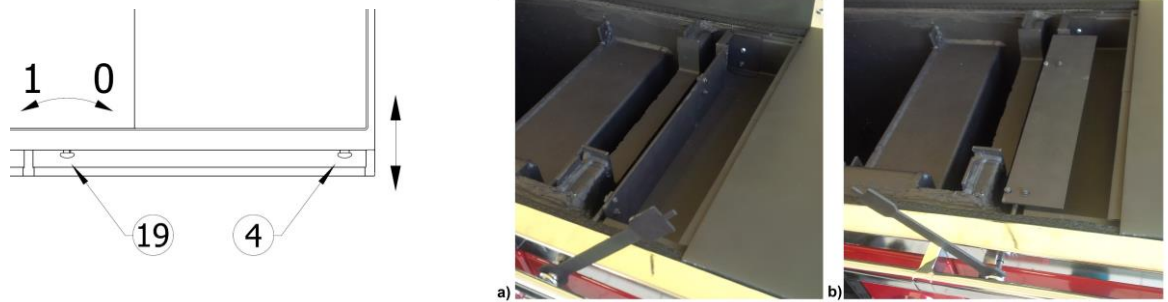

Figure 13
When the system is cold, power regulator (combustion regulator, thermostat) damper (Fig. 9, pos. 22) located on the ash pan door (Fig. 1, pos. 8) should be open (knob Fig.1, pos. 9 turned to max). The button of the butterfly handle (Fig. 1 and Fig. 13, pos. 4) should be pulled out and the rosette button for heating-baking (Fig. 13, pos. 19) should be turned to the left to position "1" using a key (Fig.13,b). The butterfly and rosette for heating-baking opened in this way allow starting of fire. Later, when the fire in the cooker is burning, set the regulator damper to
While baking, the butterfly (Fig. 1, pos. 4) for fire starting has to be closed, the rosette button for heating-baking has to be in position “1” (Fig. 13, pos. 19), power regulator has to be open and the stove covers have to be raised using the key (Fig. 18). After you finish baking, cooking or frying, place the power regulator in desired position and the rosette button for heating-baking to position “0”.